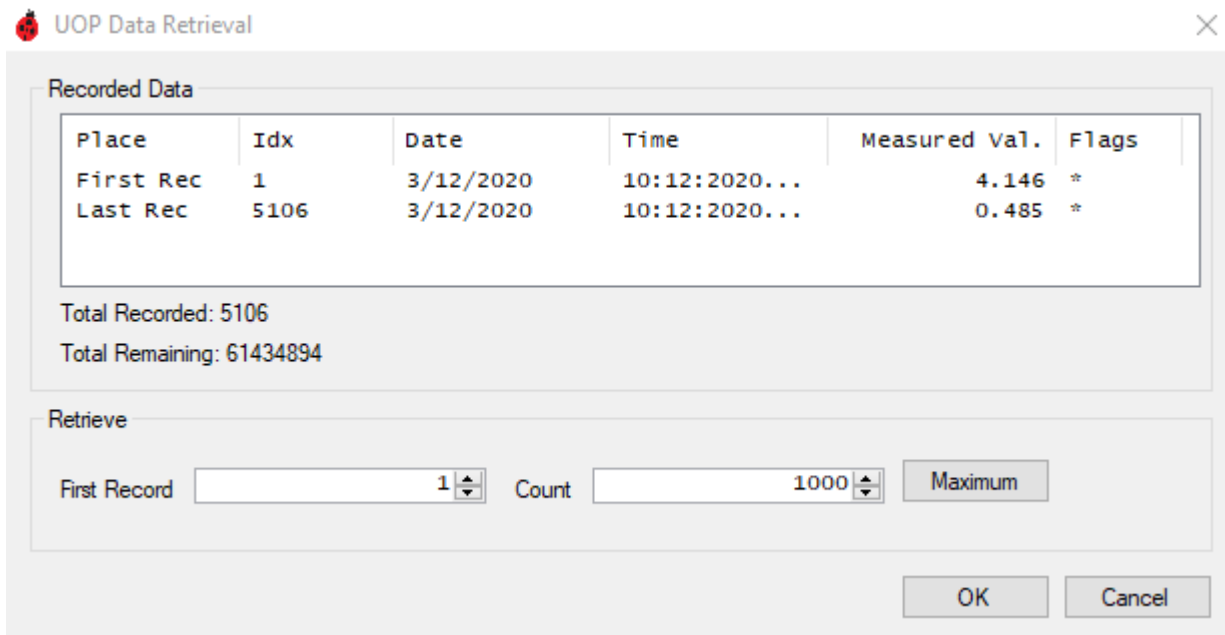

Figure 10 - UOP Data Retrieval
Memory is stored in records, each consisting of an index, date, time, value in dBm, and a flags field. Figure 10 is an image of the Retrieval screen with 5,106 stored measurements. During the period that was used to make these measurements, the sensor was powered a total of 4 times making measurements each time. These times were:
To retrieve data from unattended measurement, refer to Figure 10 and take the following steps.
- Click the Manage UOP dropdown then click Retrieve Data and the image in Figure 10 will appear allowing the selection of data.